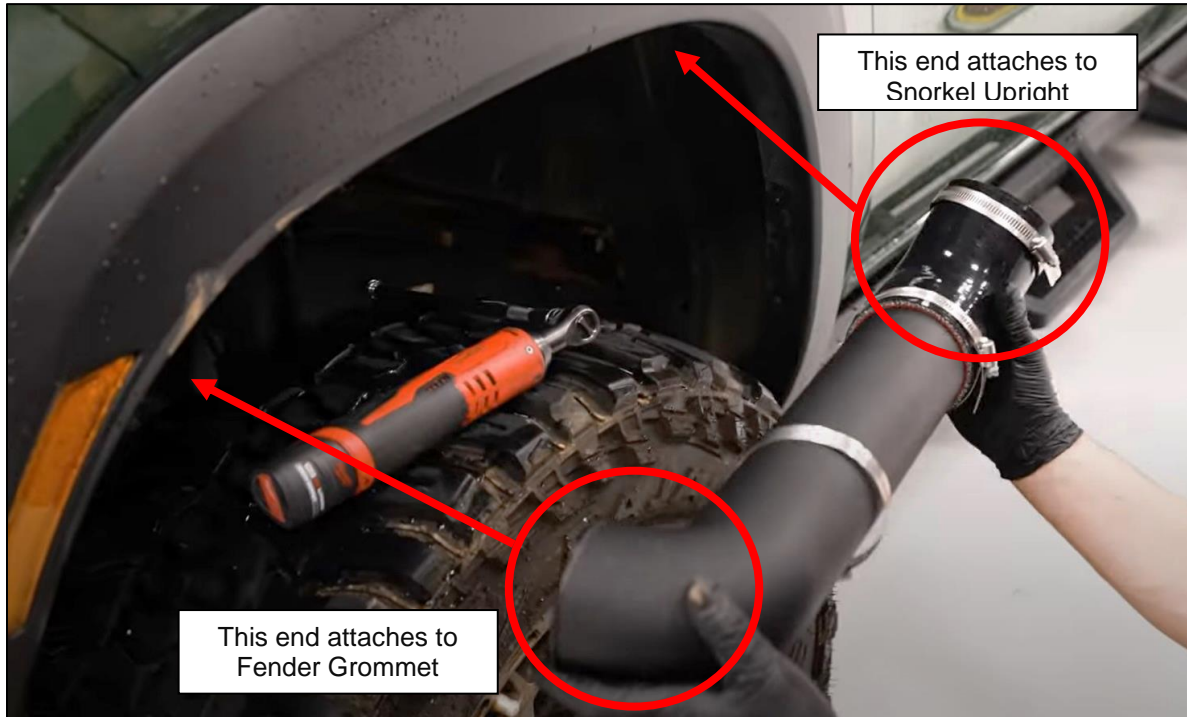

Figure 23
34. Locate the Fender Pipe Assembly created in *Step 27*. Position it inside the Driver's Side Wheel Well, and attach the bend of the Fender Pipe to the Fender Grommet first. Adjust the Band Clamps so they can be tightened, but DO NOT tighten yet. *Figure 23*.
35. Swing the Fender Pipe Assembly up, and connect the Silicone Coupler to the Snorkel Upright. Adjust the Band Clamps so they can be tightened, but DO NOT tighten yet. *Figure 23* above.